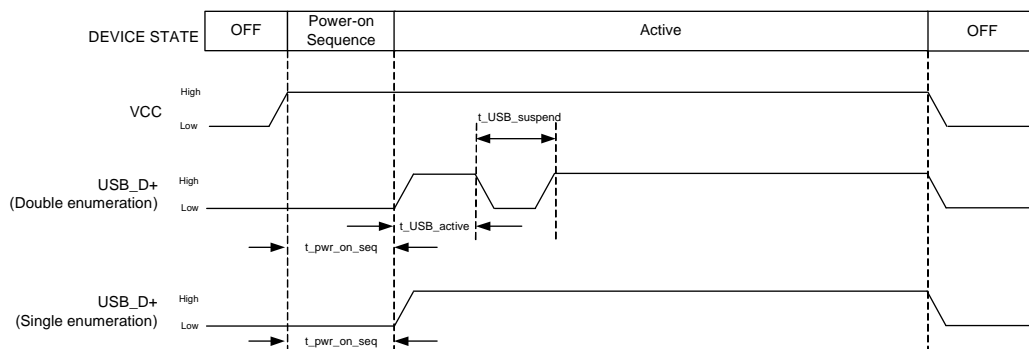

Figure 5-2: Signal timing (Power-on, and USB enumeration)
Figure 5-2 describes the timing sequence for powering the module on and off.
- Double enumeration—As shown in Figure 5-2: